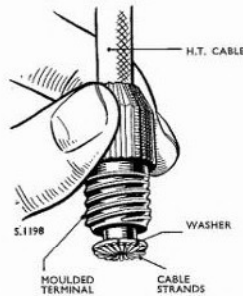

Fig. N.35. Ignition coil high tension cable terminal
- To connect the cable to the ignition coil high tension terminal, thread through the moulded terminal, bare about $\frac{1}{4}$ in. (6 mm.) of the strands at the cable end, thread through the brass washer (removed from the original cable) and bend back the strands (see Fig. N.35).